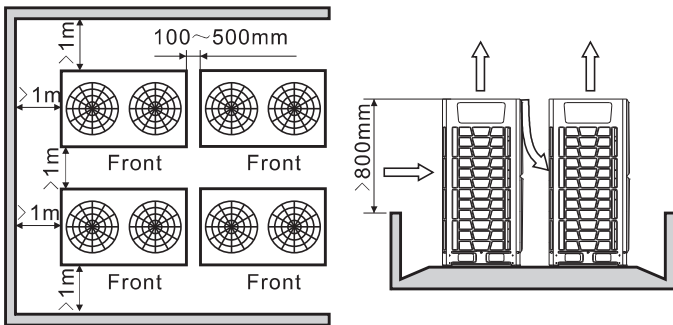

Fig. 3.11 2 rows
5) When outdoor units are higher than surrounding barriers and they will be arranged in more than 2 rows, please see Fig.3.11.